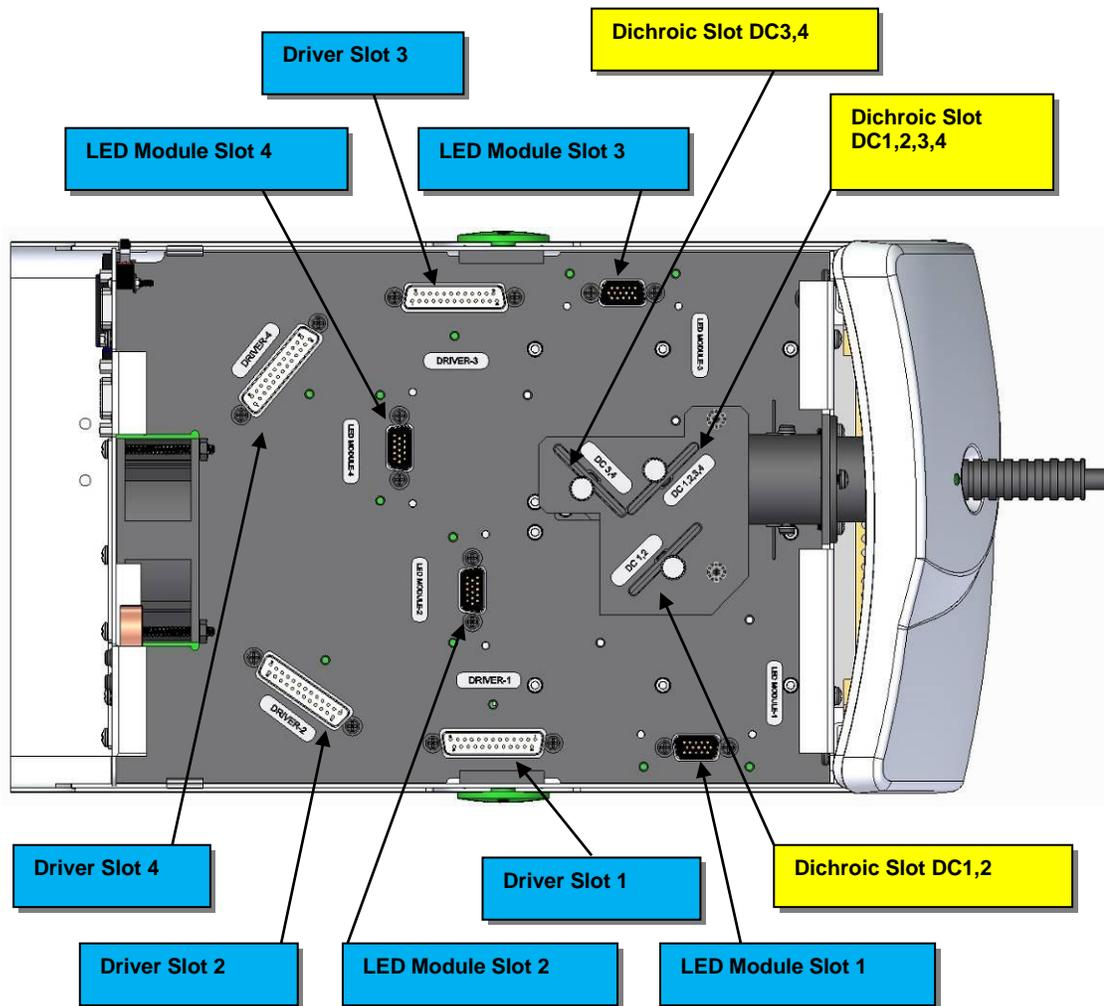

Figure 4 LED Module/Driver and Dichroic Locations
“Location” refers to the positions identified in Figure 4, showing an empty X-Cite XLED1 unit. (yellow = Dichroic location, blue = LED module and driver location). For LED Module/Driver and Dichroic Replacement instructions, refer to sections 10 and 11.
- 4.2.3 LED Modules are shipped with their unique Drivers. Both components must be installed at the same time. Refer to Figure 4 for module and Dichroic locations.
- 4.2.6 Install the Dichroics by inserting through the slot and lightly press down until a positive force is felt. Ensure to hand tighten the locking screw, do not use mechanical tooling such as screwdrivers, pliers etc. Refer to Figure 4 for Module and Dichroic locations.